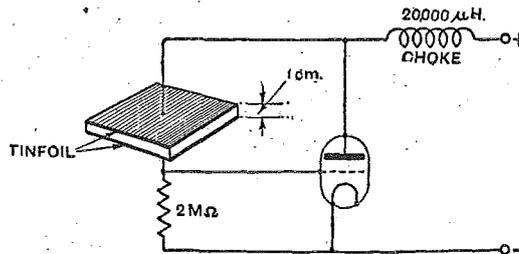

Fig. 18.—An alternative method of controlling a valve oscillator.
G. W. Pierce has devised a second method of making the crystal oscillate (Fig. 18). He employs a large slab of quartz and sticks sheets of tinfoil on opposite faces. In his method he employs the natural vibrations of the crystal in the direction of the thickness, and uses an ordinary valve.